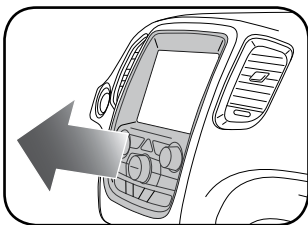

Fig. 1.1
- Using a panel tool, remove the radio bezel from the dash. Disconnect the wiring harness on the back of the OEM panel. (Fig. 1.1)